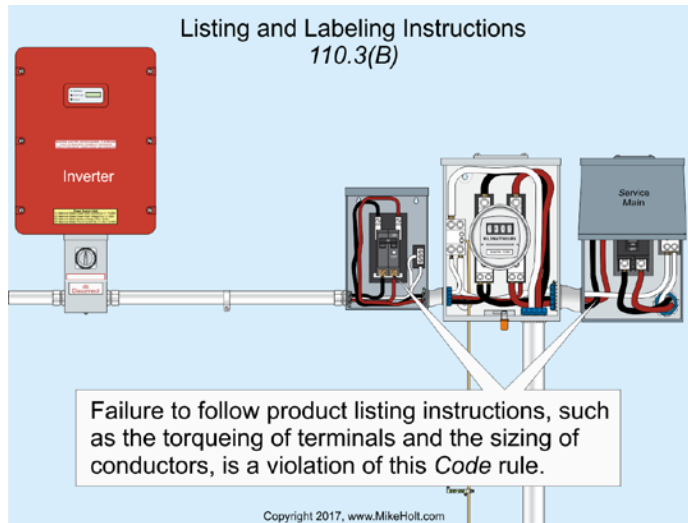

Figure 110-2
- Failure to follow product listing instructions, such as the torquing of terminals and the sizing of conductors, is a violation of this *Code* rule. Figure 110-2